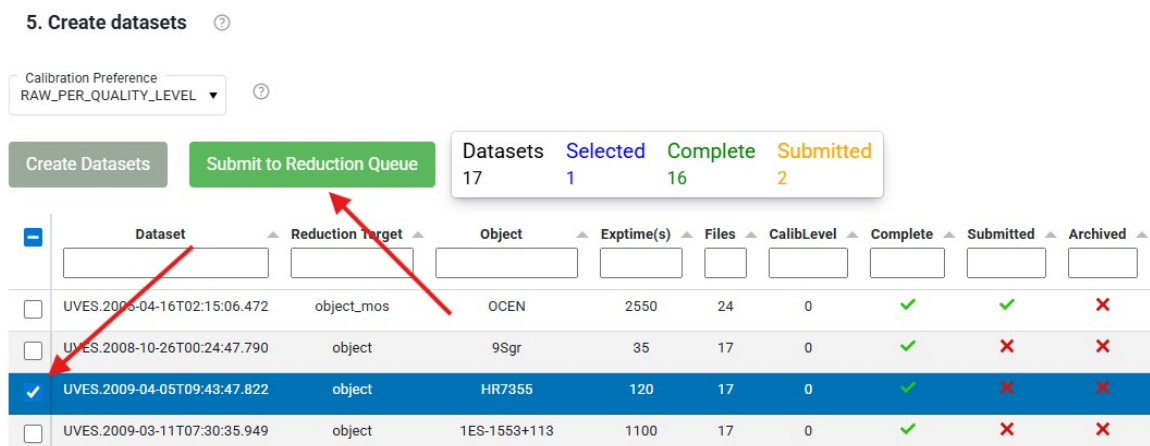

Figure 8: How to send the selected datasets to the Reduction Queue for processing.
5. Choose the datasets that should be processed (Figure 8) and send them to the data reduction queue by pressing ‘Submit to Reduction Queue’. Note that this action does not start the reduction automatically.